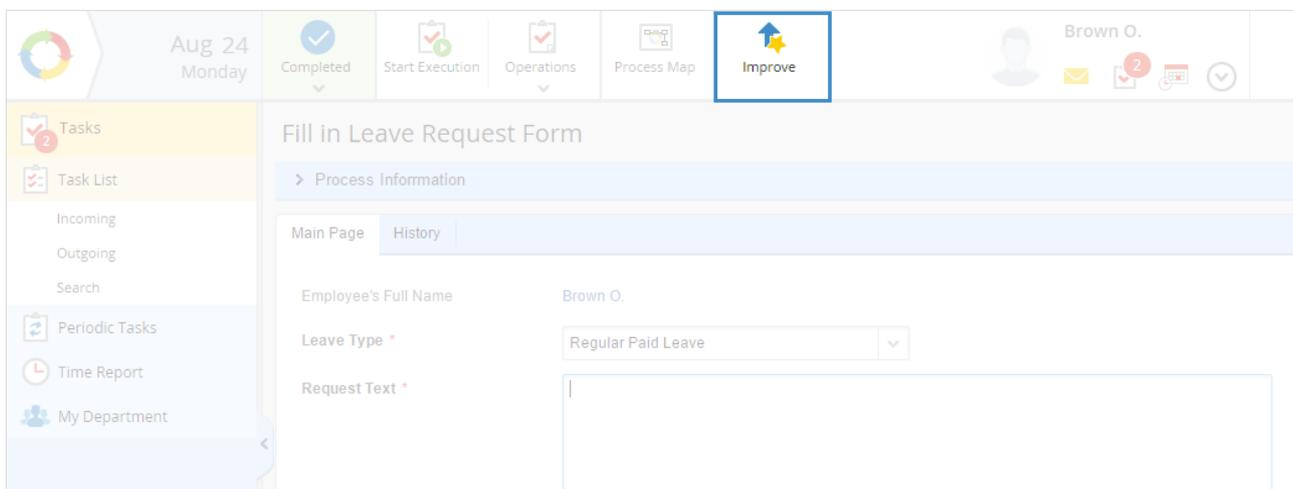

Fig. 110. The Improve button to submit a suggestion
**ELMA** has process improvement tools to consider and process these suggestions (Fig. 110). Any user at any process stage can use the **Improve** button to make an improvement suggestion. The suggestion will be sent to the process owner who decides whether to make an improvement or reject it. You can improve processes without executors' suggestions.